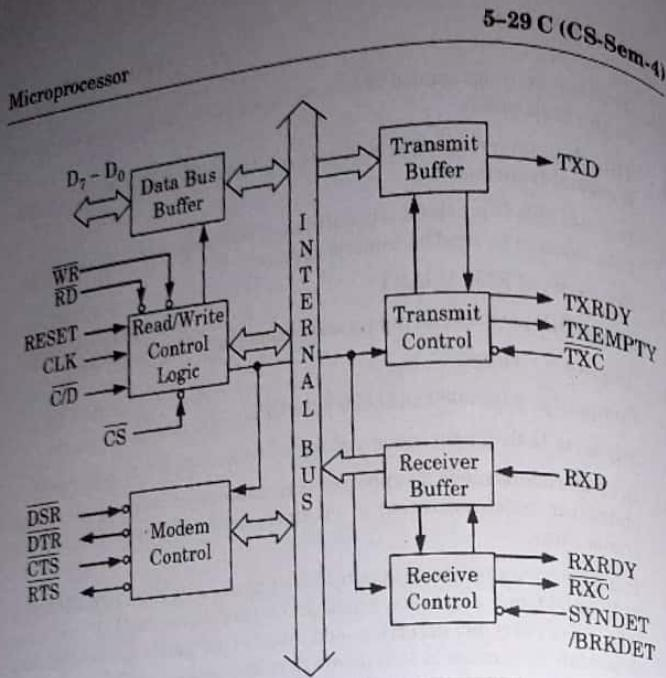

Fig. 5.22.1. 8251A Internal architecture.
1. The architectural block diagram of 8251 A is shown in Fig. 5.22.1, followed by the functional description of each block.